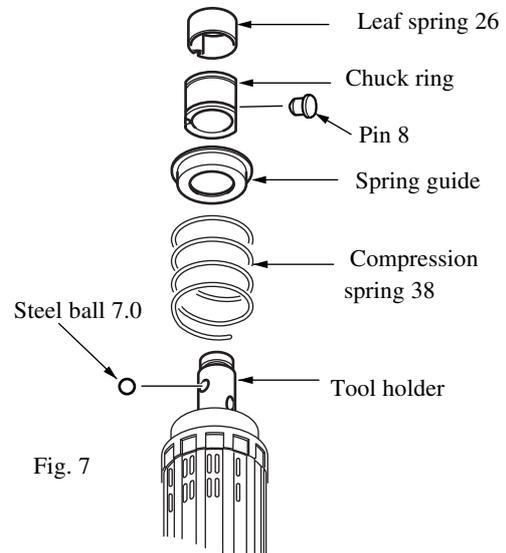

Fig. 7
2) Remove Leaf spring 26 from Chuck ring and remove Pin( See Fig.7).
3) When removing Chuck ring, Steel ball7.0, Spring guide and Compression spring38 will come off. (See Fig.7)